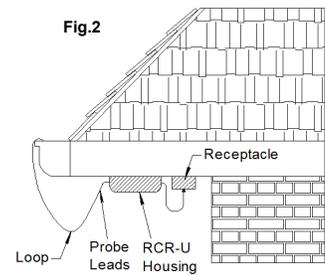

Fig. 2
1. Mount the main housing under the soffit, or equivalent location protected from the weather, using the screws provided. Refer to Fig. 2. Ensure that the mounting location is close enough to the receptacle supplying power to the unit to allow the power cord on the control to be plugged in. The power connection should be located for the best protection from the weather and a drip loop used as appropriate. If desired, this receptacle can be controlled by a switch (with a pilot light) located inside the house. See Fig. 2.